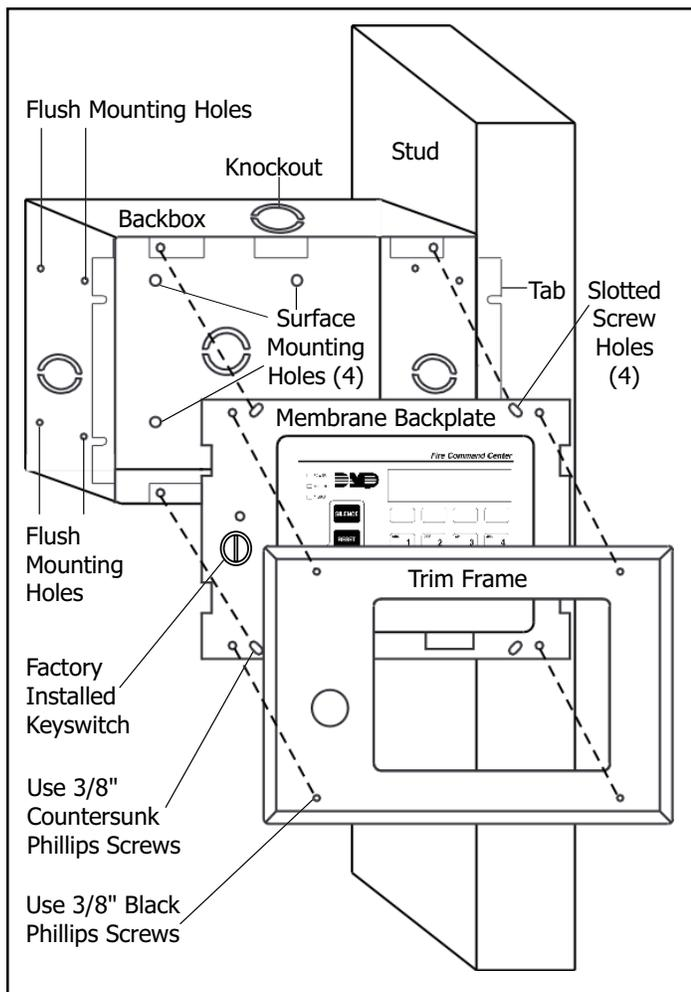

Figure 1: Exploded Mounting Diagram
2. Screw in one screw in each of the four surface mounting holes in the back of the box. See Figure 1.
2. The backbox has four mounting holes on both sides. Using mounting holes on one side of the backbox, attach the backbox to a stud. As shown in Figure 1, the backbox tab is flush mounted against the stud.
Refer to Figure 1 for an exploded illustration of mounting the three major parts. The dashed lines represent paths for screws. For easier installation, one knockout has been provided on each of the five surfaces of the backbox. Use one of the five knockouts for running wires.
After securely mounting the backbox and running the wires (see **Harness Wiring**), attach the annunciator membrane backplate to the backbox using the four supplied countersunk 3/8" Phillips screws. See Figure 1. After securing the mounting plate to the backbox, the mounting plate can be adjusted right and left so the LCD display is level. The four slotted screw holes in the corners of the mounting plate allow for this adjustment. See Figure 1.
After the mounting plate is properly attached and leveled, attach the trim frame to the mounting plate for a finished look. The trim frame is attached using the four supplied 3/8" black Phillips screws. See Figure 1.